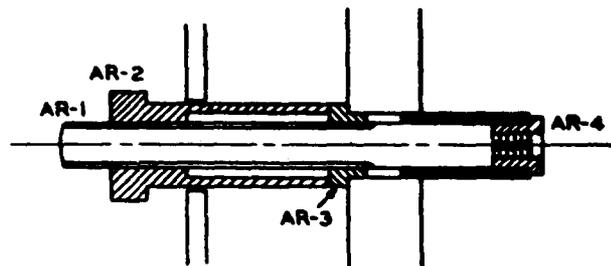
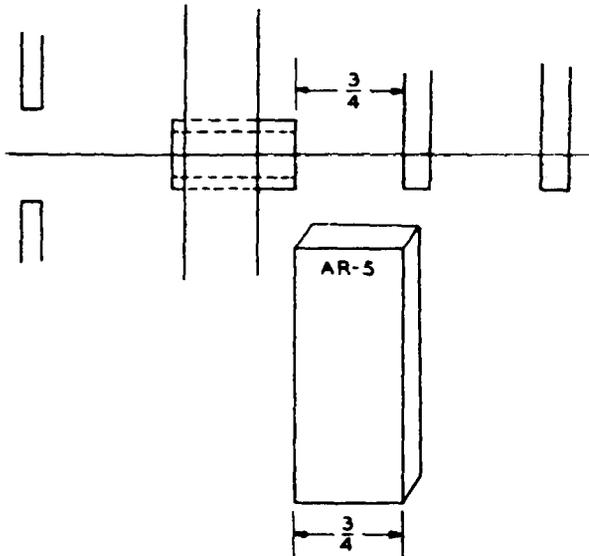

Fig. 23
Fig. 24
(15) To insert a new tell tale shaft bearing in the main frame casting use the tool assembly shown in Fig. 23. The parts to this tool assembly are marked AR-1, AR-2, AR-3 and AR-4. Make certain that the oil hole in the bearing is lined up for the corresponding oil hole in the casting so that when the bearing is finally in place the hole in the bearing will coincide with the hole in the casting. Start the new bearing into place by tightening the AR-2 nut. Remove the AR-3 collar after the bearing has been started. Then with the AR-3 collar removed, force the bearing into place by tightening the AR-2 nut. Use the AR-5 gauge block to obtain the 3/4-inch spacing in Fig. 24.